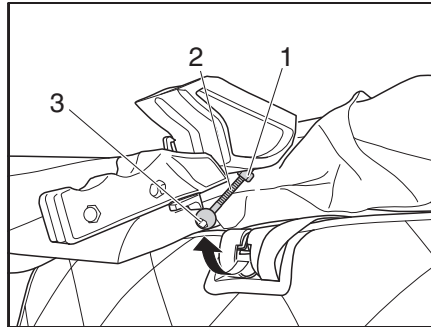

Fig. 44 Pop-up roof latches
- Swivel the bolt (Fig. 44,2) out of the locking receptacle.
- Loosen the hexagonal head screw (Fig. 44,1).
- Tighten the bolt with a hexagon socket spanner at the hexagon receptacle (Fig. 44,3).
- Tighten hexagonal head screw (Fig. 44,1) and swivel bolt (Fig. 44,2) into locking receptacle.